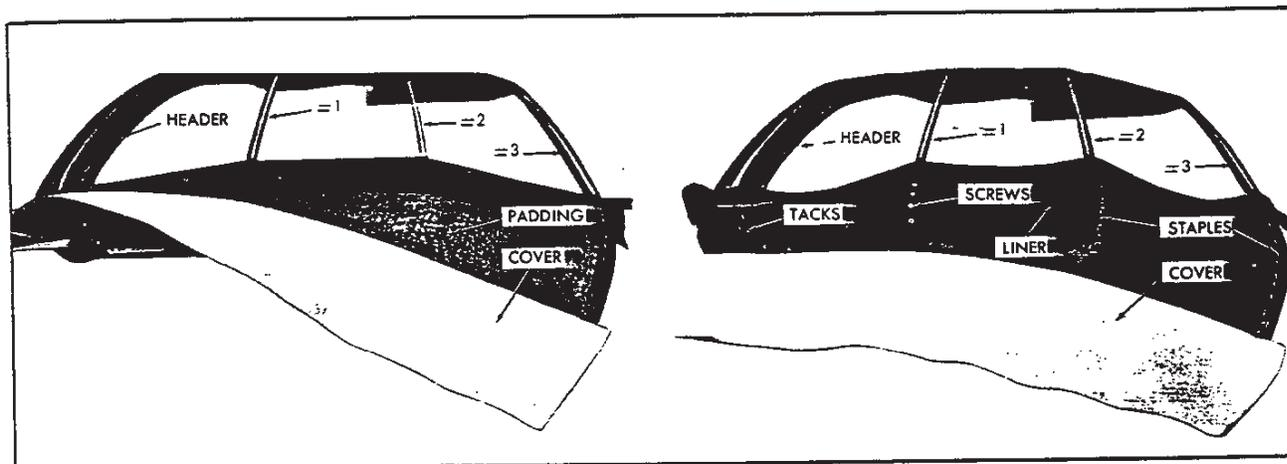
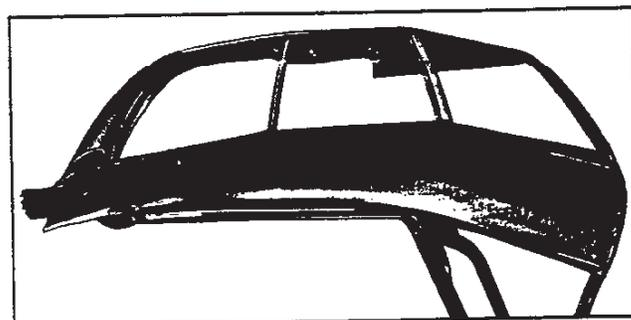

Fig. 68—Pad Construction
Fig. 69—Pad Installed
3. If new pads are required, install at this time, aligning with marks made when old pads were removed. Figure 68 shows pad construction; Figure 69 shows pad installed.